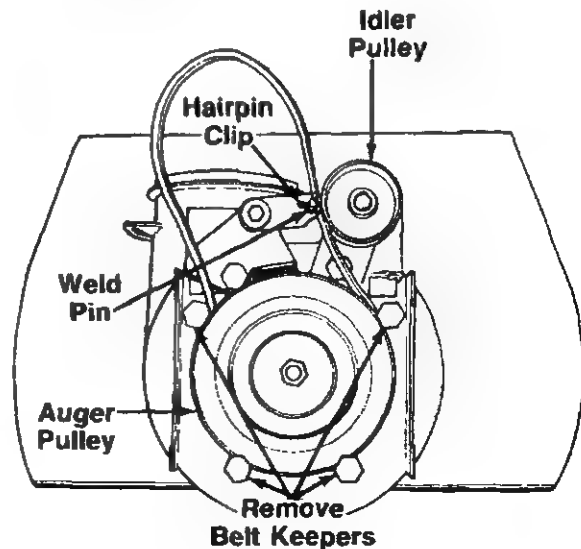

FIGURE 25.
9. Using a $\frac{15}{16}$ " wrench, remove the four shoulder bolts and cupped washers which act as belt keepers. See figure 25.
12. Push the idler to the right to extend the spring. Remove belt from between idler pulley and weld pin. See figure 25.